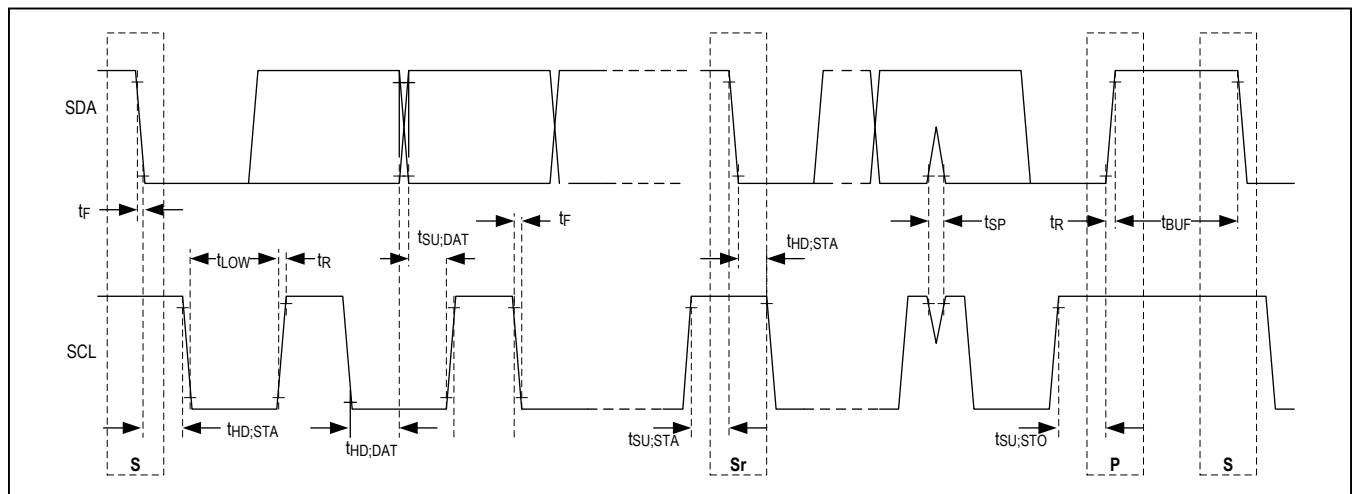

Figure 2. Timing Diagram
**Note 5:** See Figure 2 for timing diagram. All timing is referenced to 0.9 x VDD and 0.1 x VDD.